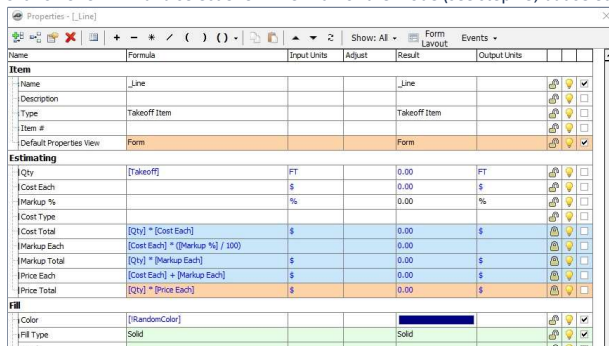

Figure 15
15. Click on **Show: All** and select **Show: Normal** for the mode (see step 13, but select **Normal** from the drop-down menu) (Figure 15).